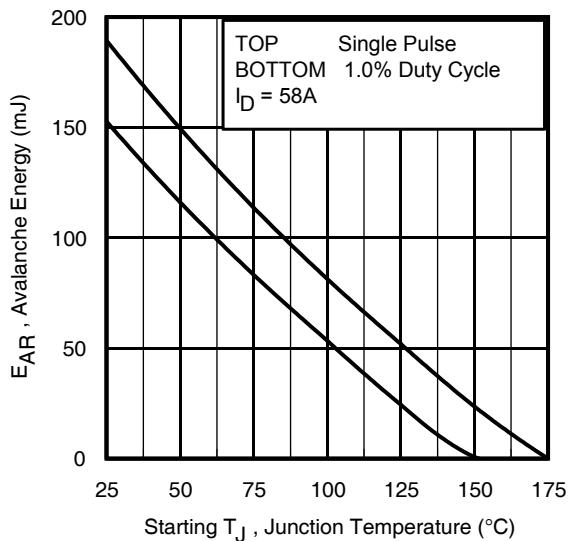

**Fig 14.** Maximum Effective Transient Thermal Impedance, Junction-to-Case
7.  $\Delta T$  = Allowable rise in junction temperature, not to exceed  $T_{jmax}$  (assumed as 25°C in Figure 14, 15).
$Z_{thJC}(D, t_{av})$  = Transient thermal resistance, see Figures 14)